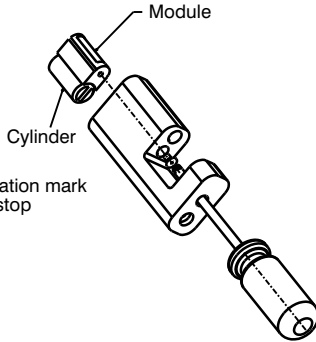

Fig. 3
9. With the key turned to the open position use a pair of suitable bent long nose pliers to firmly grasp the retainer through the hole (fig3) and push down the retainer at the same time fully insert the Shackle bar.